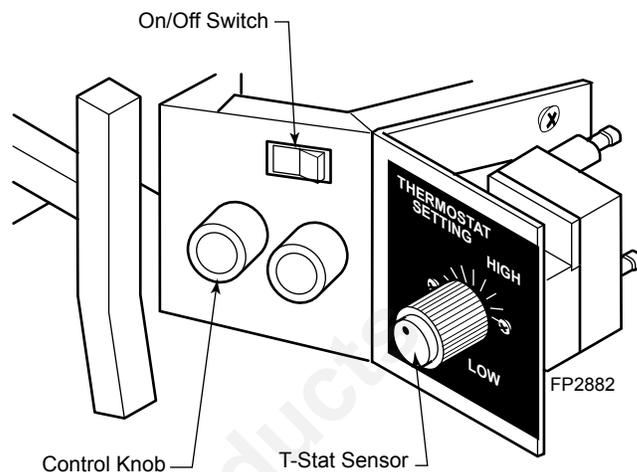

Figure 23 - Control Knob in “ON” Position and ON/OFF Switch in “OFF” Position
2. With control knob in the “ON” position make sure the ON/OFF switch is in the “OFF” position. *Figure 23*